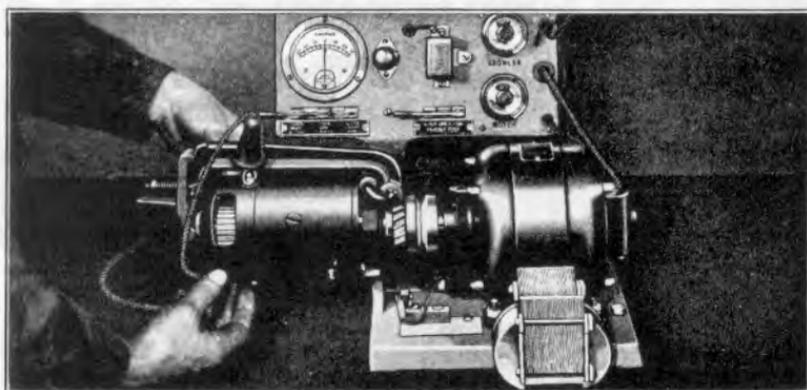

Fig. 512
- 1074** After removing generator from the car inspect generator for worn brushes; weak or broken brush springs or broken brush or field connections. If brush springs and connections are O. K. place generator in a test stand; connect wire on test stand to generator terminal and close switch on stand to left; (this will make the generator run as a motor) and note the following conditions: (when making this test it may be necessary to give armature a turn with the hand in order to make it revolve See Fig. 512).